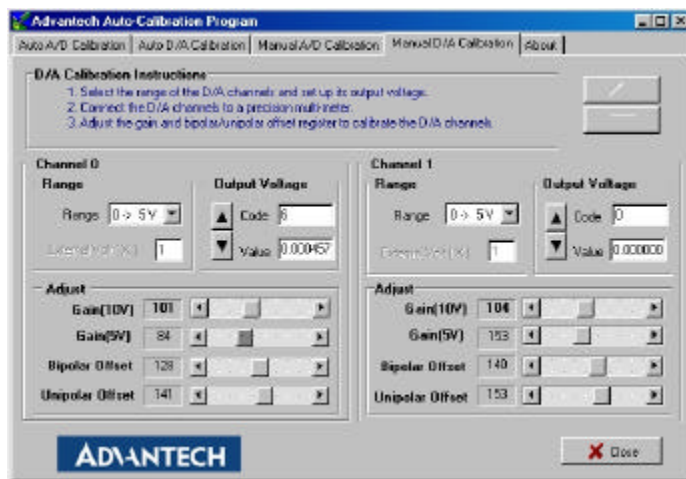

Fig. 5-19 Adjusting registers
Step 3: According to the difference between the output voltage from D/A channel and the value in the multi-meter, adjust the gain, bipolar offset and unipolar offset registers (*Fig. 5-19*)